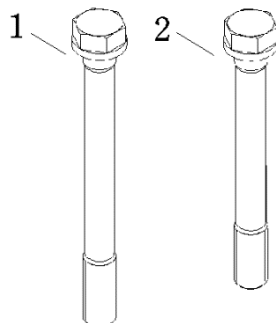

Figure 4-21 Cylinder Head Bolt
(3) Install the cylinder head
- ①Carefully wipe out cylinder head to ensure there is no dust, scraps, sand or any other dirt, and further wipe out the lower plane of cylinder head lower plane.
- ② Check and confirm there is no foreign matter inside cylinder, and cylinder head gasket and cylinder head lower plane are clean.
- ③Before tightening the cylinder head bolt, position the cylinder head through cylinder pin-plane.
- ④Install the cylinder head.
- ## (4) Install the bolts to cylinder heads
- ①Cylinder head bolts are divided into long ones and short ones, as is shown in Figure 4-21.
- ②Every cylinder head main bolt is allowed to be used for 3 times, tightening order of cylinder head bolts is